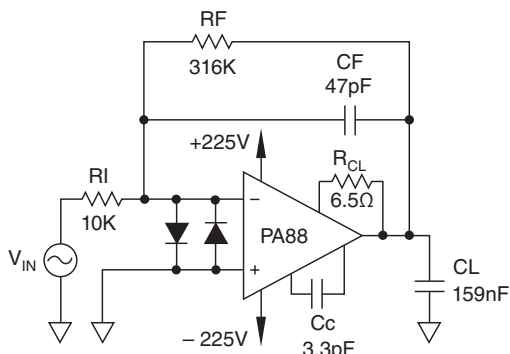
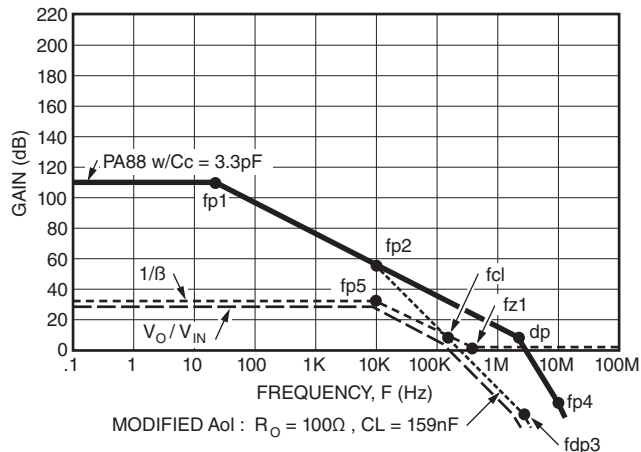

FIGURE 26. FEEDBACK ZERO COMPENSATION FOR CL
FIGURE 27. FEEDBACK ZERO COMPENSATION FOR CL MAGNITUDE PLOT FOR STABILITY
Figure 26 illustrates a circuit utilizing Feedback Zero Compensation for stability when driving a capacitive load. Figure 27 is our magnitude plot to work with for stability. The following procedure will ensure a logical approach to optimize stability:
- STEP 1:** Modify the PA88 Aol due to CL. Here we use the output impedance number for the PA88 of $R_o = 100$ ohms. The higher frequency poles of the unmodified PA88 Aol must be added into the modified Aol as shown in Figure 26.
fcl such that if the modified Aol plot in the real world moves to the left towards lower frequency we will not be back at a 40 dB per decade rate of closure. Note in Figure 27 that the $1/\beta$ plot has fp5 and fz1. The feedback network continues to feed back output voltage beyond fcl until we reach 0 dB. Then the $1/\beta$ plot flattens out at 0 dB. It is important to include fz1 since it will be a pole in our open loop phase check
STEP 5: Once you have chosen CF to get the f_{p5} you want you automatically set f_{z1} . f_{z1} can be gotten graphically from the $1/\beta$ plot. For those of you who want exact breakpoints, here are the formulae for the $1/\beta$ plot in Figure 27.